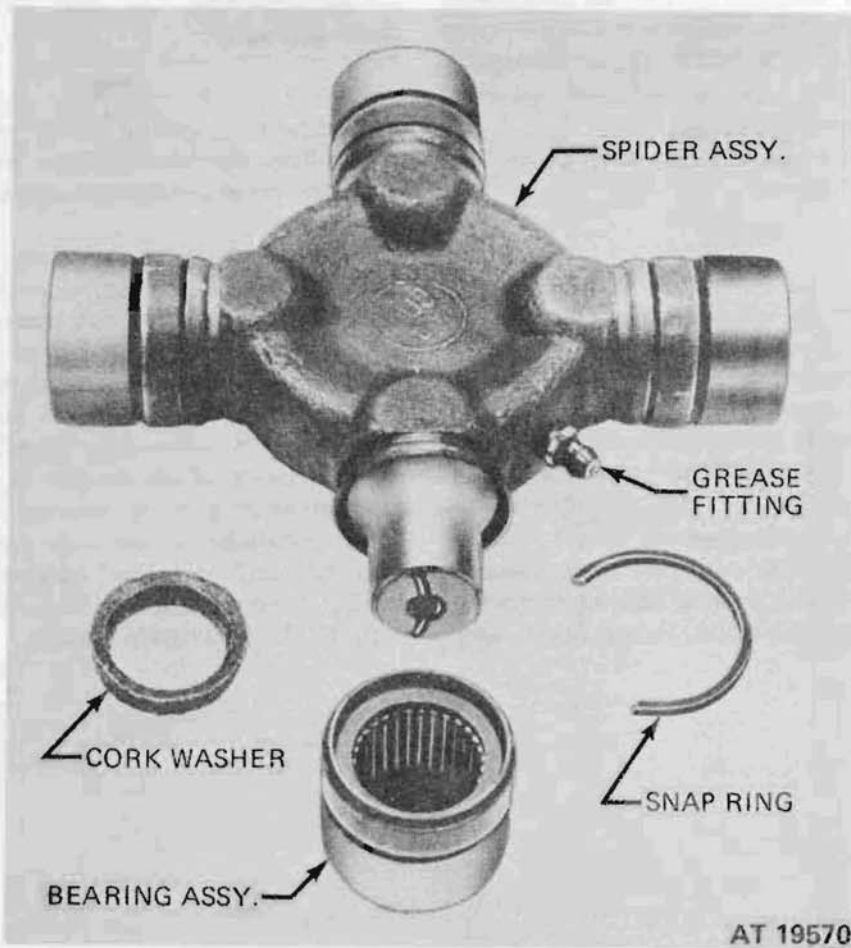

Figure 197.1. Internal snapping universal joint.
d. Universal Joint Repair Parts: For Propeller Shafts, Federal Supply Code for Manufacturers 76260. (fig. 197-1)